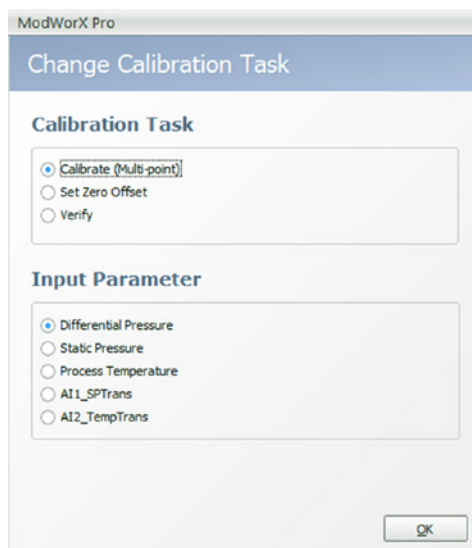

Figure 8.2
The Change Calibration Task dialog will appear (Figure 8.2, page 108). On this screen, the user selects both the calibration task to be performed (calibrate, zero, or verify) and the input parameter to be calibrated (differential pressure, static pressure, or process temperature). If the optional expansion board is installed in a Scanner 2000, or if a Scanner 2200 is installed, the listing of selectable input parameters will include Analog Input 1 and Analog Input 2.
1. On the Change Calibration Task screen, click **Calibrate (Multi-point)** as the Calibration task, and click the input parameter of your choice. For this example, Differential Pressure is the input parameter to be calibrated (Figure 8.2).